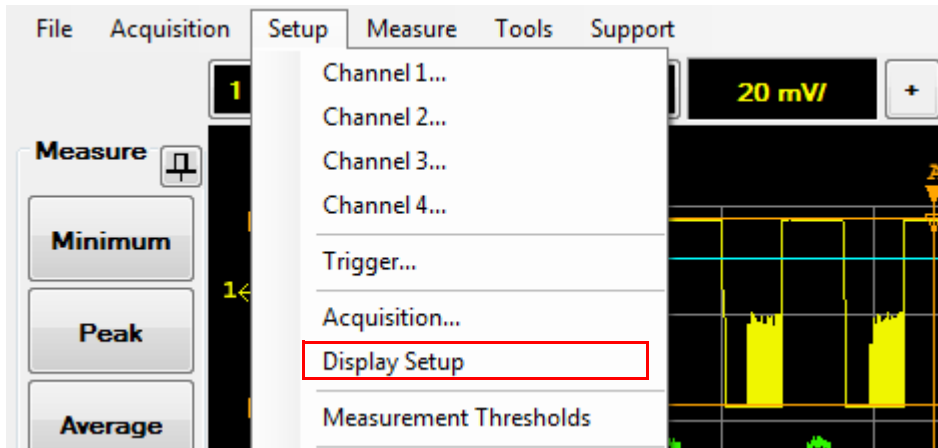

Figure 2-159 Display Setup selection in the Setup menu
- 1 Select **Setup > Display Setup** on the toolbar as shown in Figure 2-159.